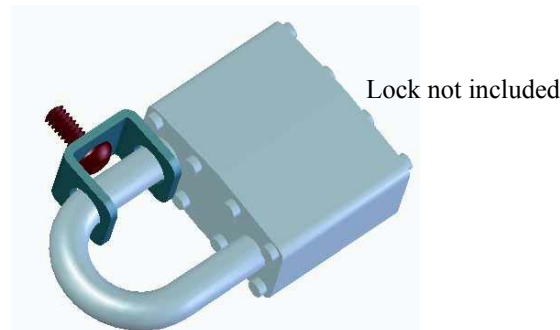

Figure 3.
4. Install locking device in bracket, making sure locking device is large enough to cover access to cap screw (see Figure 3).